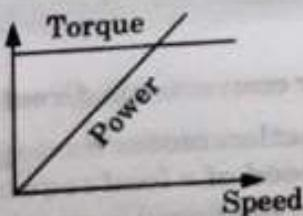

Fig. 1.4.1. Characteristics of constant-torque drive.
6. The power available at the shaft (= Constant-torque \times Speed) varies linearly with speed as shown in Fig. 1.4.1.